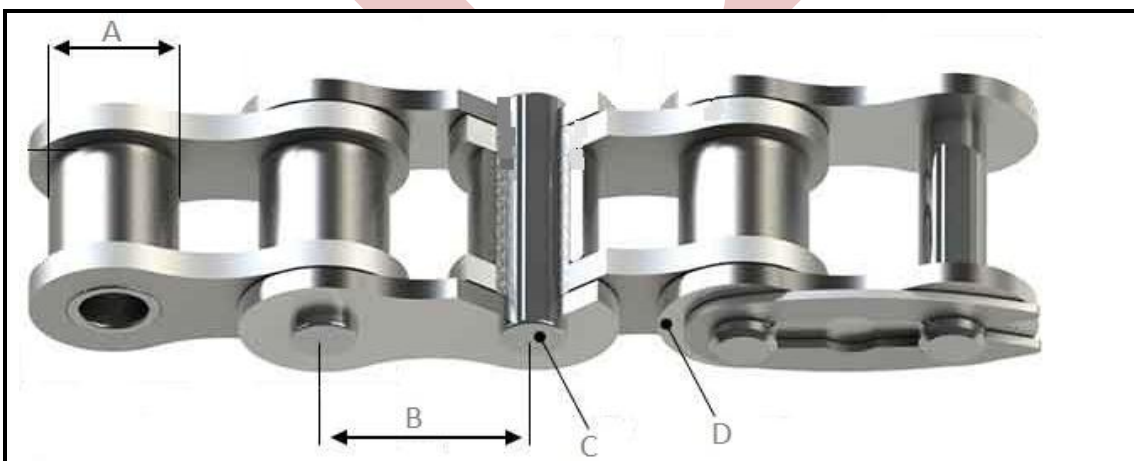

FIGURE 1
1.3 Study FIGURE 1 below, showing the different components of a basic chain, and answer the question that follows:
Label the different parts A–D in FIGURE 1. Write the answer next to the letter (A–D) in the ANSWER BOOK. (4)
1.4 State FOUR advantages of a worm and worm wheel gear system. (4)